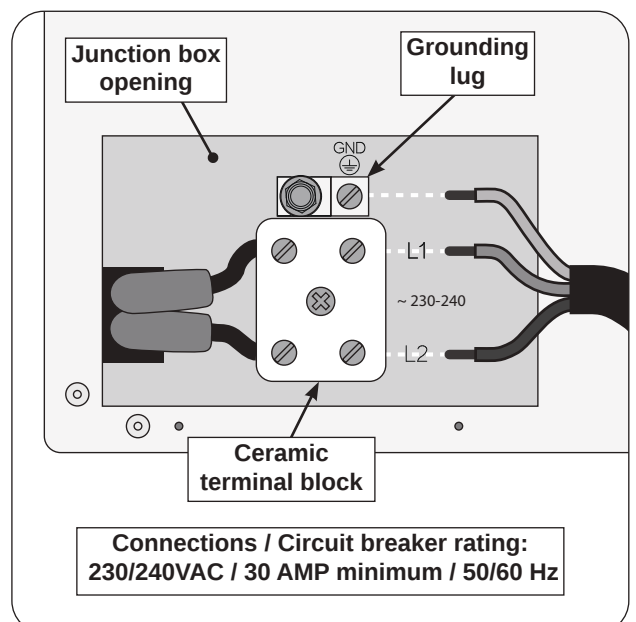

Fig. 24-3 Wire connection diagram
3. Connect the wires to the ceramic terminal block. Reference the wiring information below and Fig. 24-3.